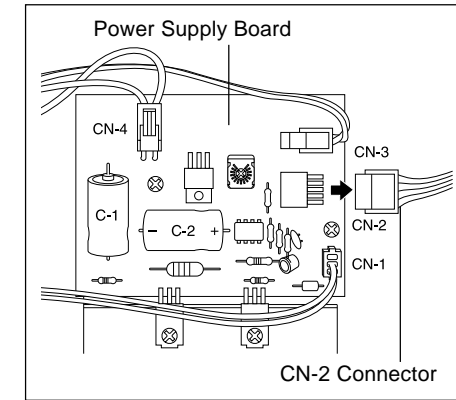

Fig. 2
4. Remove the CN-2 connector on the power supply board. (Fig. 2)